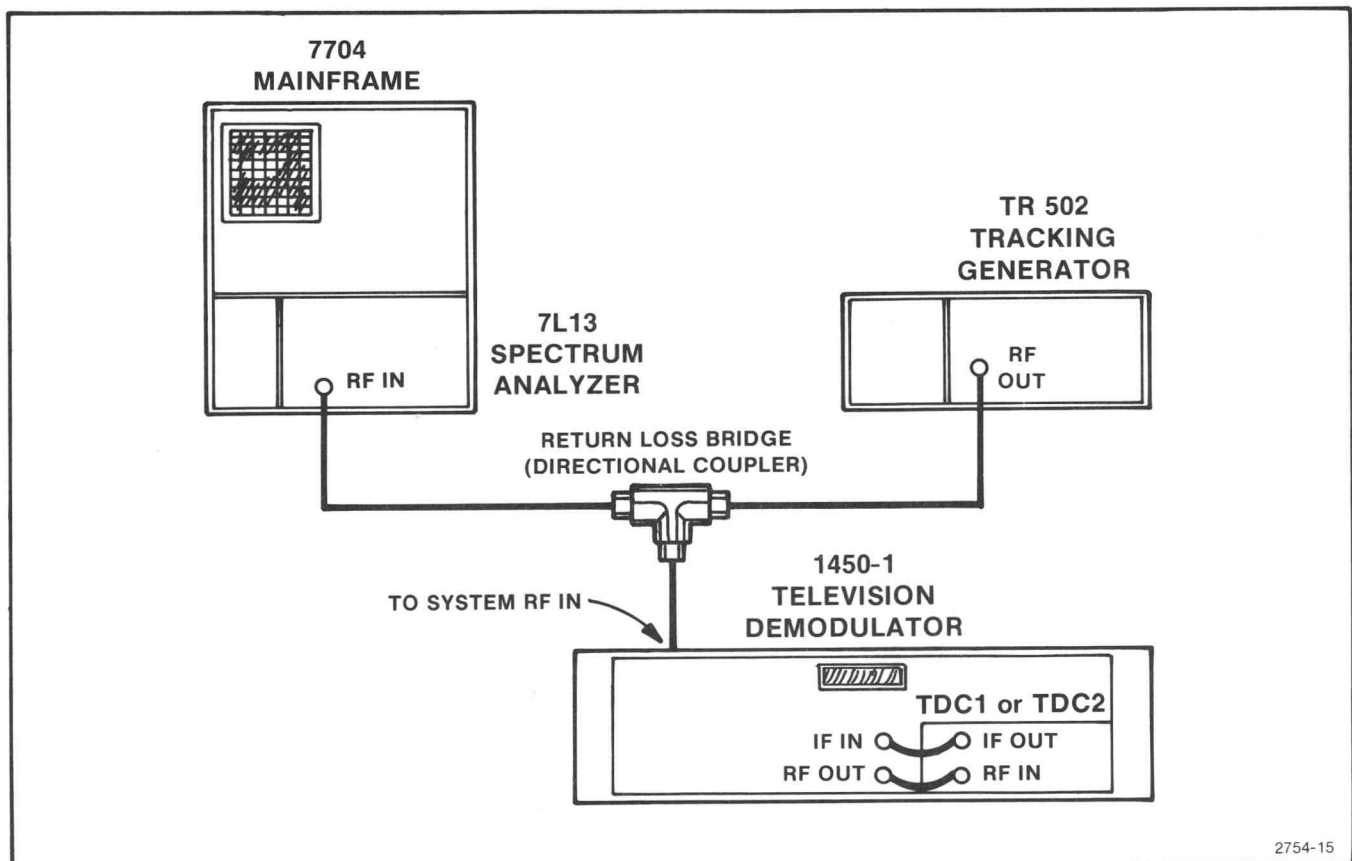

Fig. 4-4. Test Setup for Measuring Return Loss.
a. Connect the 1450-1 Television Demodulator and test equipment as shown in Fig. 4-4. Install the TDC1 or TDC2 Television Down Converter to be tested in the 1450-1 and make the appropriate front-panel connections. Set the TR 502 Output Level at -20 dBm. Disconnect the Vswr Bridge from the 1450-1, and note the level on the spectrum analyzer. This level will be used as a reference level for measuring return loss. Connect the Vswr Bridge to a reference $50\ \Omega$ load and check that the return loss read is at least 35 dB. Disconnect the $50\ \Omega$ load from the Vswr Bridge and connect the bridge to the down converter RF INput.
c. Check that return loss is at least 10 dB down from the reference level. Check return loss for every channel in the down converter. That is, (1) tune the down converter to the next channel, (2) reset the spectrum analyzer to the center frequency of the tuned channel, and (3) check return loss.